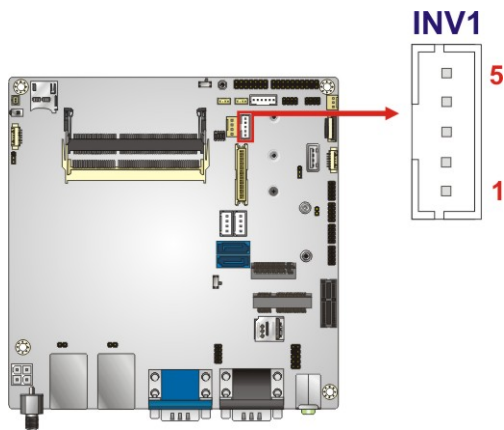

Figure 3-13: LCD Inverter Connector Location
- CN Location:** See **Figure 3-13**